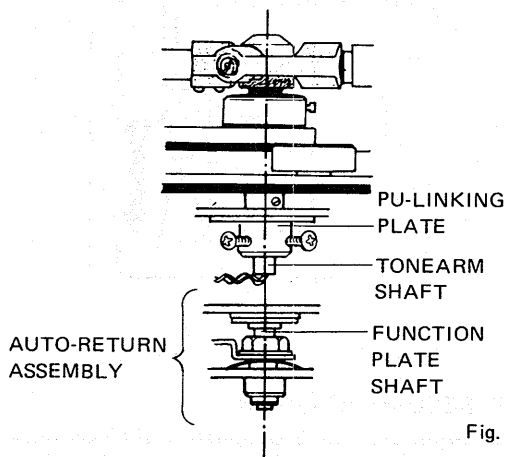
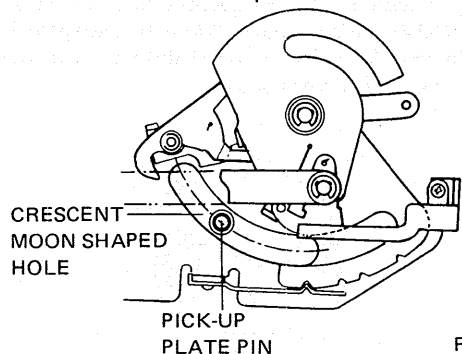

Fig. 2
Fig. 3
2. Refer to Fig. 2. Check visually whether the tonearm shaft and the function plate shaft are properly centered and aligned. Also check that the pin is correctly centered in the crescent moon shaped hole to Fig. 3. If these checks reveal some misadjustment, refer to step 3 in the adjustment procedure.